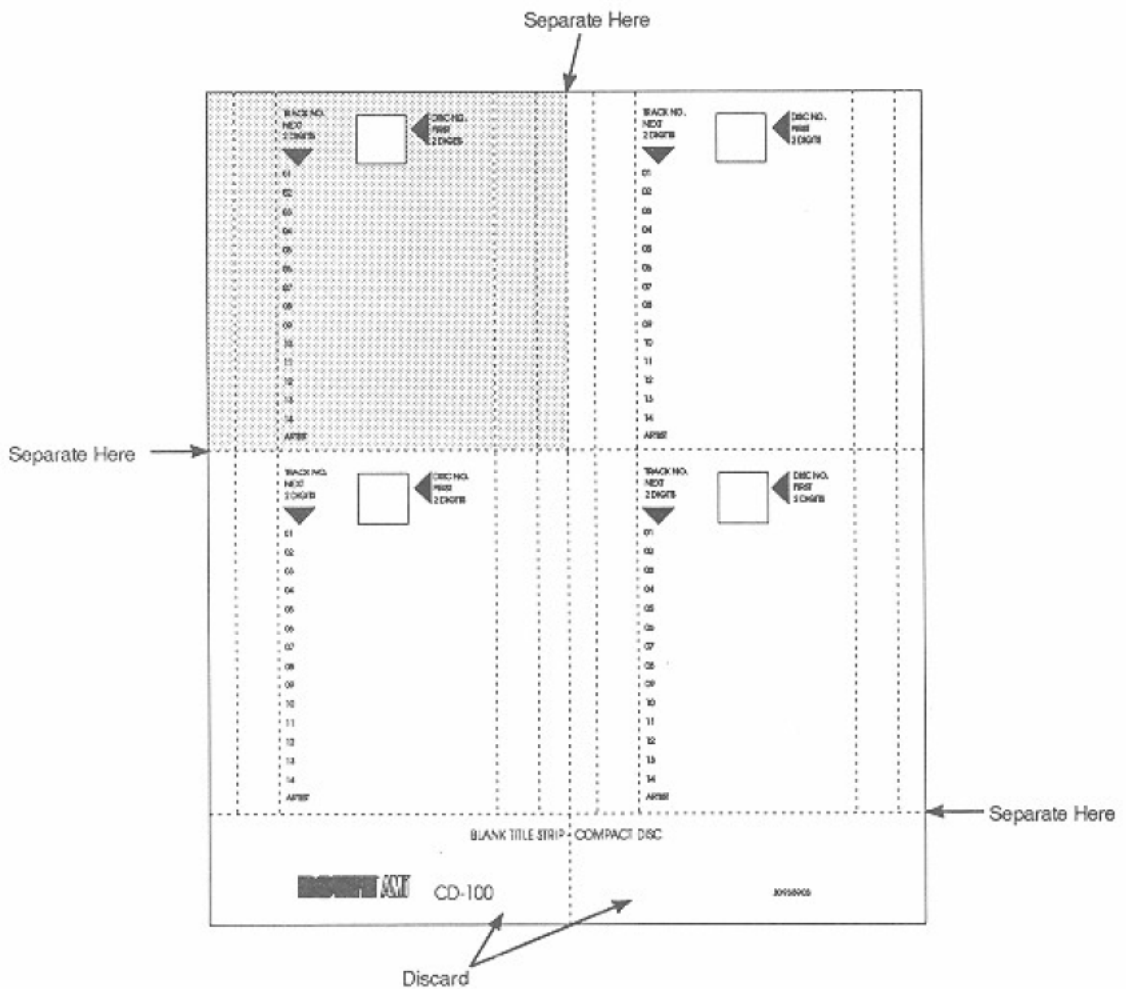

Figure 2-1. Blank Title Sheet
Refer to the sample, *Blank Title Sheet*, in figure 2-1. Refer to figure 2-1 for examples of how to tear the title strips off of the title strip sheets.
1. Tear each title strip from the title sheet so that the two perforated columns appear on the side of the title strip (the shaded portion of the title strip in *figure 2-1* represents a title strip that has been removed from the title sheet).